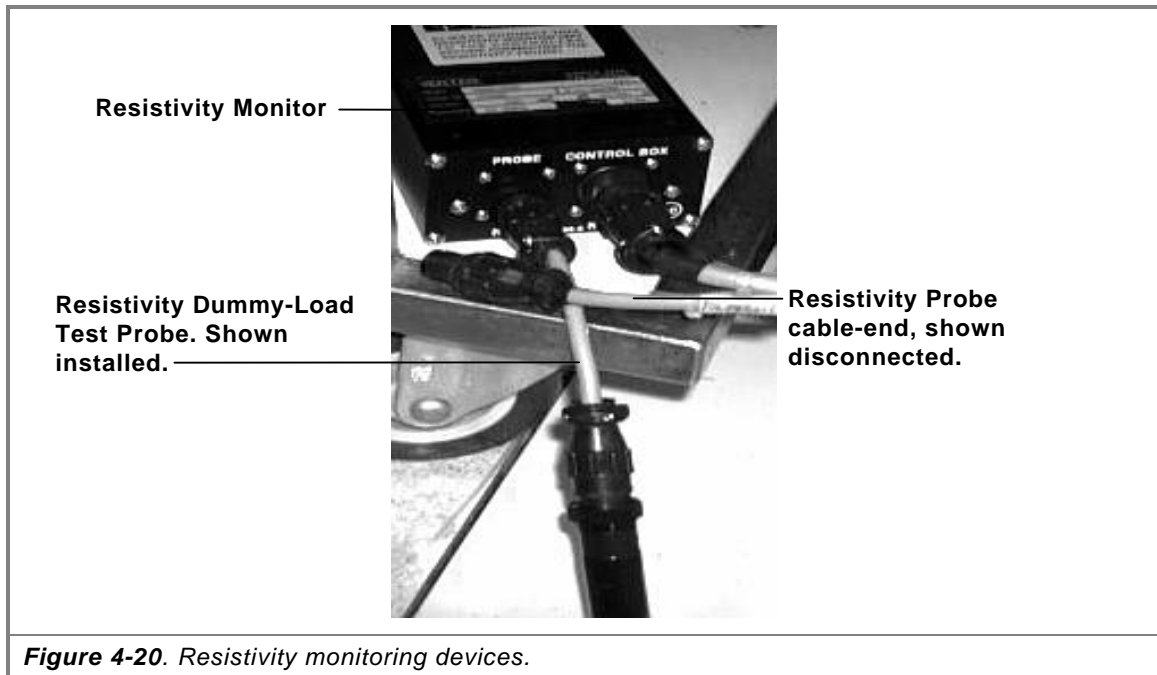

Figure 4-20. Resistivity monitoring devices.
This procedure uses a known-good resistivity input signal (dummy-load test probe) to isolate the failing device in resistivity monitoring (Figure 4-20). The major devices to troubleshoot are:
2. Disconnect the existing resistivity probe from the resistivity monitor (Figure 4-20).
- connect the test cable end (**B**) to input of the resistivity monitor (Figure 4-20)